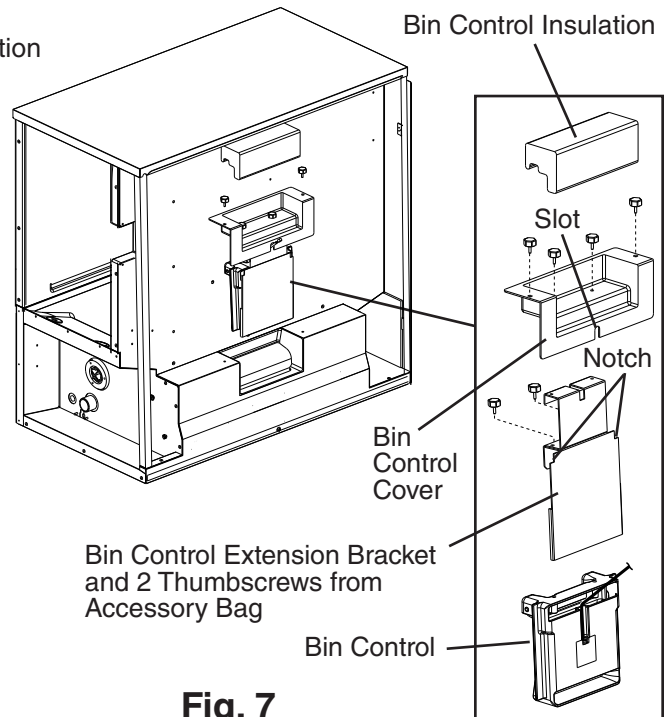

Fig. 7
- 4) Remove the bin control extension bracket and 2 thumbscrews from the accessory bag. Route the bin control cable around one of the notches on either side of the extension bracket, then secure the bin control to the bin control extension bracket using the 2 thumbscrews. See Fig. 7.